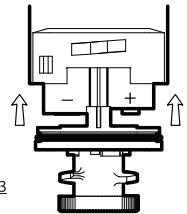

FIGURE 3
4. Insert new batteries. See Fig. 3.